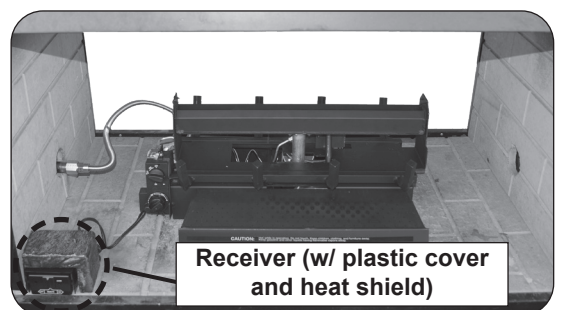

Fig. 16-4 Place remote receiver
3. **Place the remote receiver at the front left corner of the fireplace.** Place as far from the burner system as possible. See Fig. 16-4.
4. Place the plastic cover over the remote receiver with the open side facing forward to allow access to the receiver controls. Then place the decorative heat shield. See Fig. 16-4.